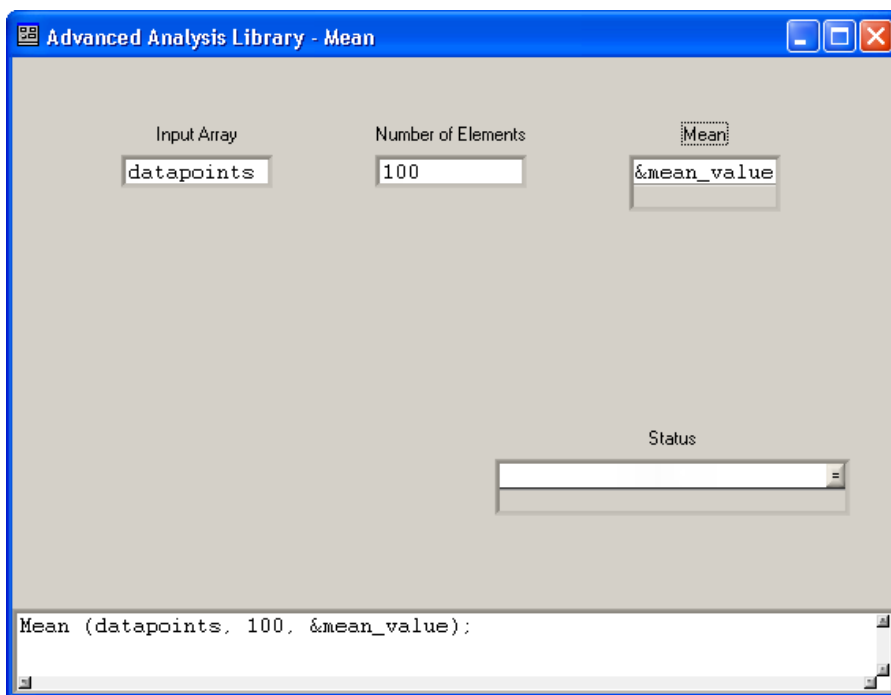

Figure 3-6. Completed Function Panel for Mean
1. Enter `&mean_value` in the **Mean** control. Confirm that the function panel matches the one in Figure 3-6.